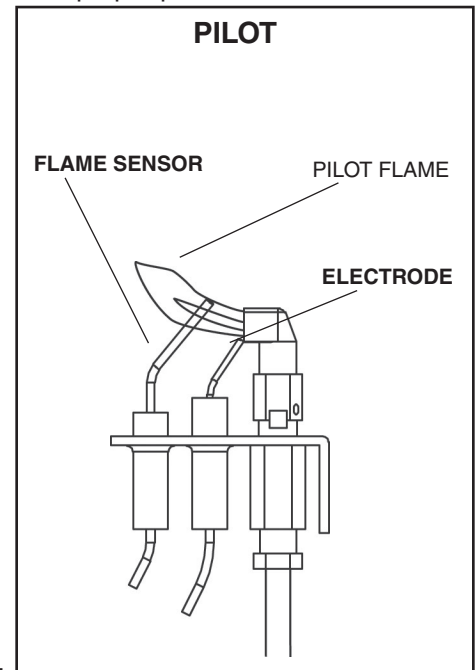

Figure 57: Pilot light.
- Check the pilot system for proper flame size and operation. Clean pilot free of soot, dust or any other deposits (Figure 57).